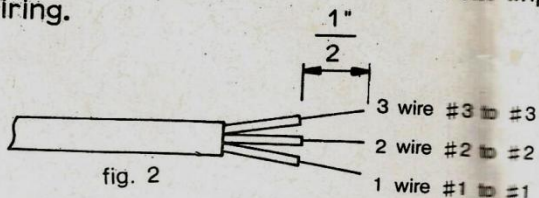

fig. 2
STEP 1 — Determine proper rotor cable size and strip about 1/2" of each conductor jacket off. Insert bare conductor into connector plate of rear of control unit as shown in fig.1, Then, release jacket to secure on connector per fig.2.